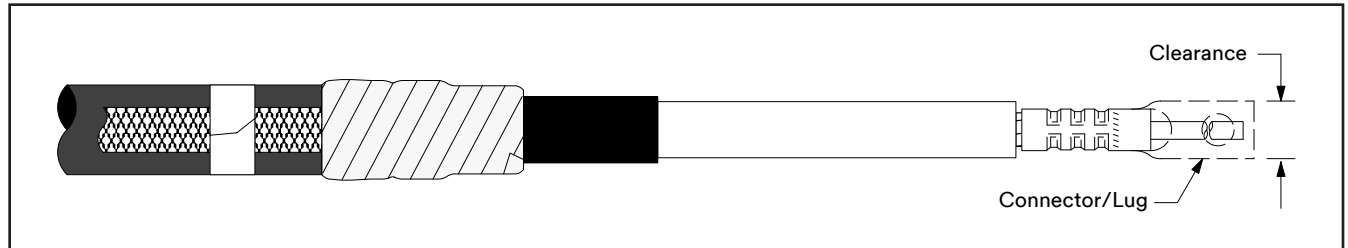

Figure 6
- 4.1 Check to insure 3M Cold Shrink QT-III Silicone Rubber Termination assembly fits over the selected lug or connector BEFORE installing the lug or connector.** If lug or connector. (Figure 6) will not fit through the termination core, clean the insulation (per Step 5.0) and slide termination on cable before installing lug or connector. **DO NOT REMOVE CORE AT THIS TIME.**